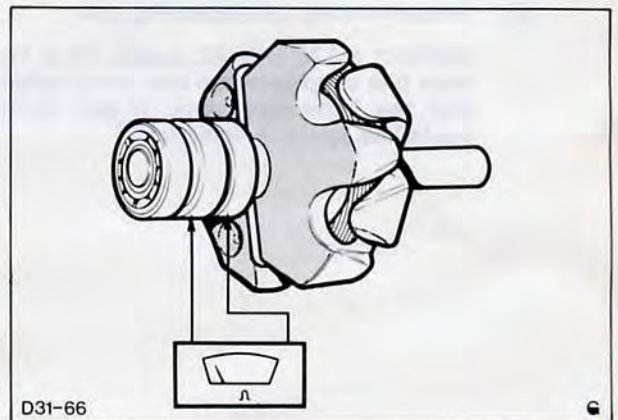

Fig. 21. Rotor winding continuity check
- Rotor winding continuity, Fig. 21.